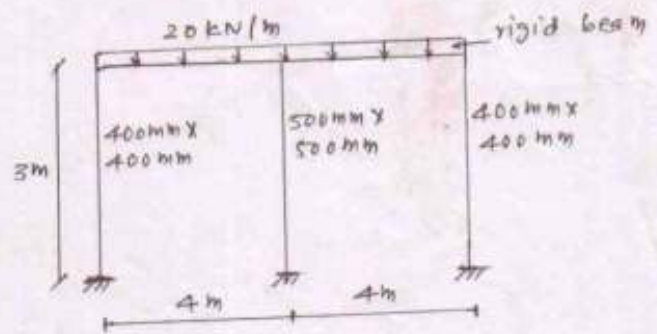

Fig. 4
- Q.5 (a)** Find the natural frequency of building frame shown in Fig.4. Assume beam at roof level as rigid. **07**